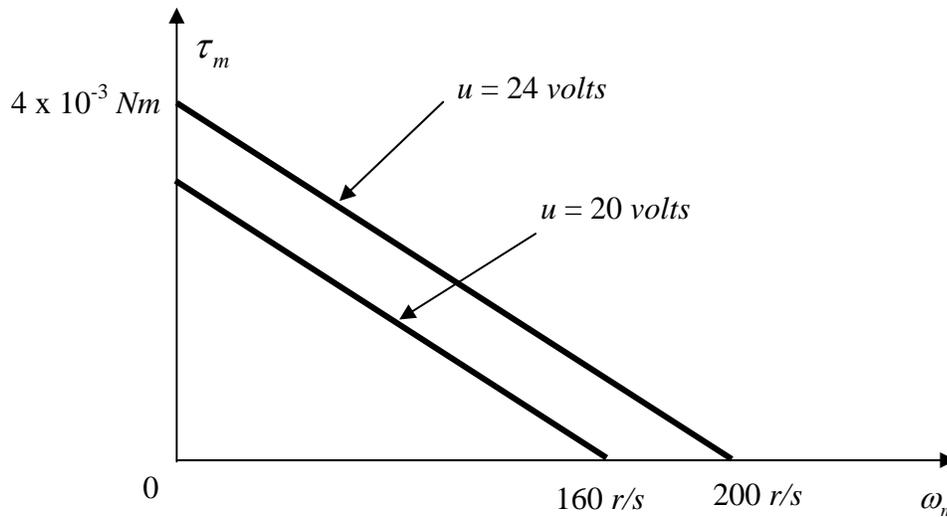

Figure 1 Torque-speed characteristics of a DC motor
- b). Figure 1-b shows profiles of the transistor voltage and current,  $V_{ce}$  and  $I_c$ , when the transistor turns on and off. The maximum voltage is 10 volts, and the maximum current is 0.5 A. It takes 5  $\mu$ s for the transistor to turn on, and 10  $\mu$ s to turn-off. During the turn-on and turn-off transition periods both voltage and current vary linearly, as shown in the figure. How much heat (cal) is generated at the transistor in one second when this transistor is used for a uni-polar PWM amplifier of 10 kHz PWM frequency? Note that the mechanical equivalent of heat quantity is 4.2 joule/cal.